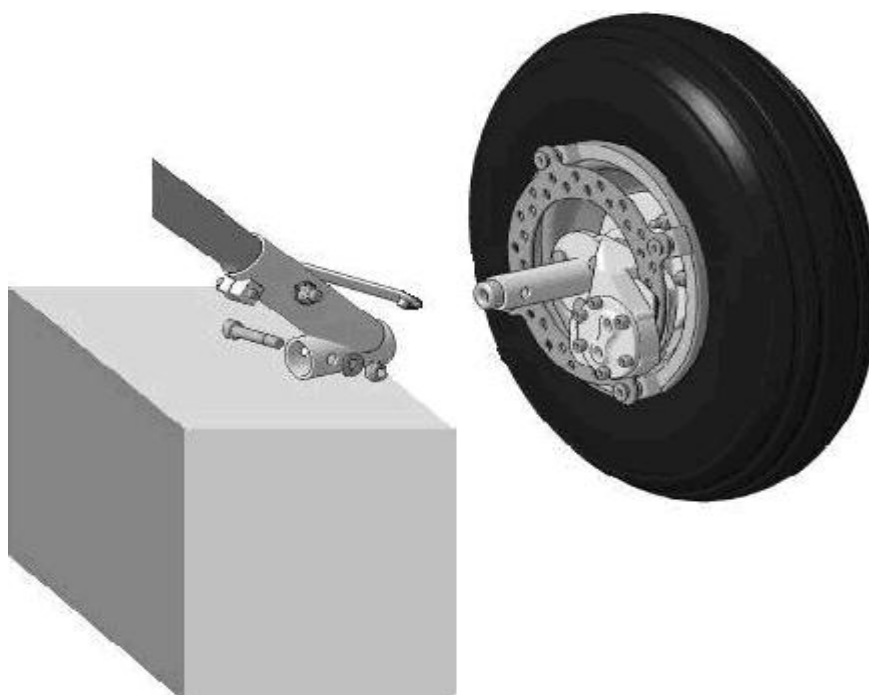

Fig. 2
Lift up the wing tip of a wing and put the 8" (200 mm) support under each main wheel attachments KA4020100L (R), Fig. 2.